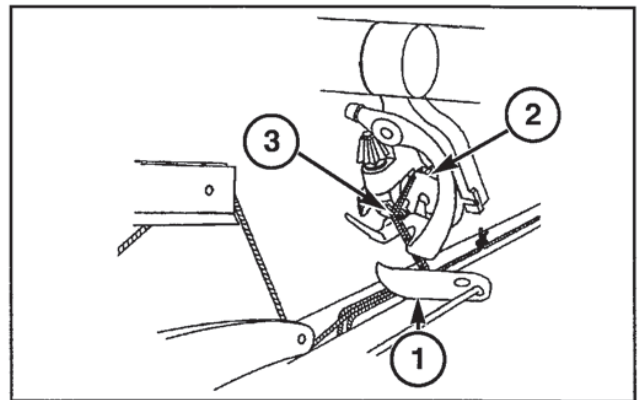

FIG. 10
FIG: 10: The twine finger (1) moves in for the second time, picking up the two twines being held by the twine disc (2). The twine finger moves the two twines into the route of the billhook (3) for the next billhook rotation.